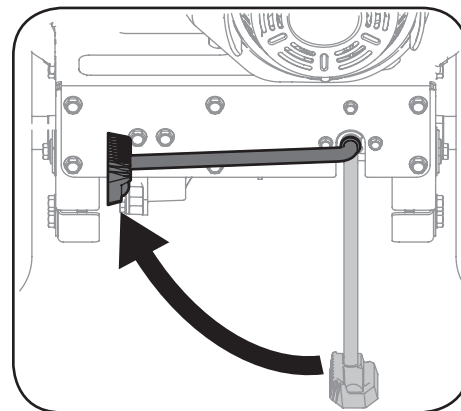

Figure 4-2
1. Roll the FLEX™ Power Base over to the aerator attachment with the kickstand UP. See Figure 4-2.